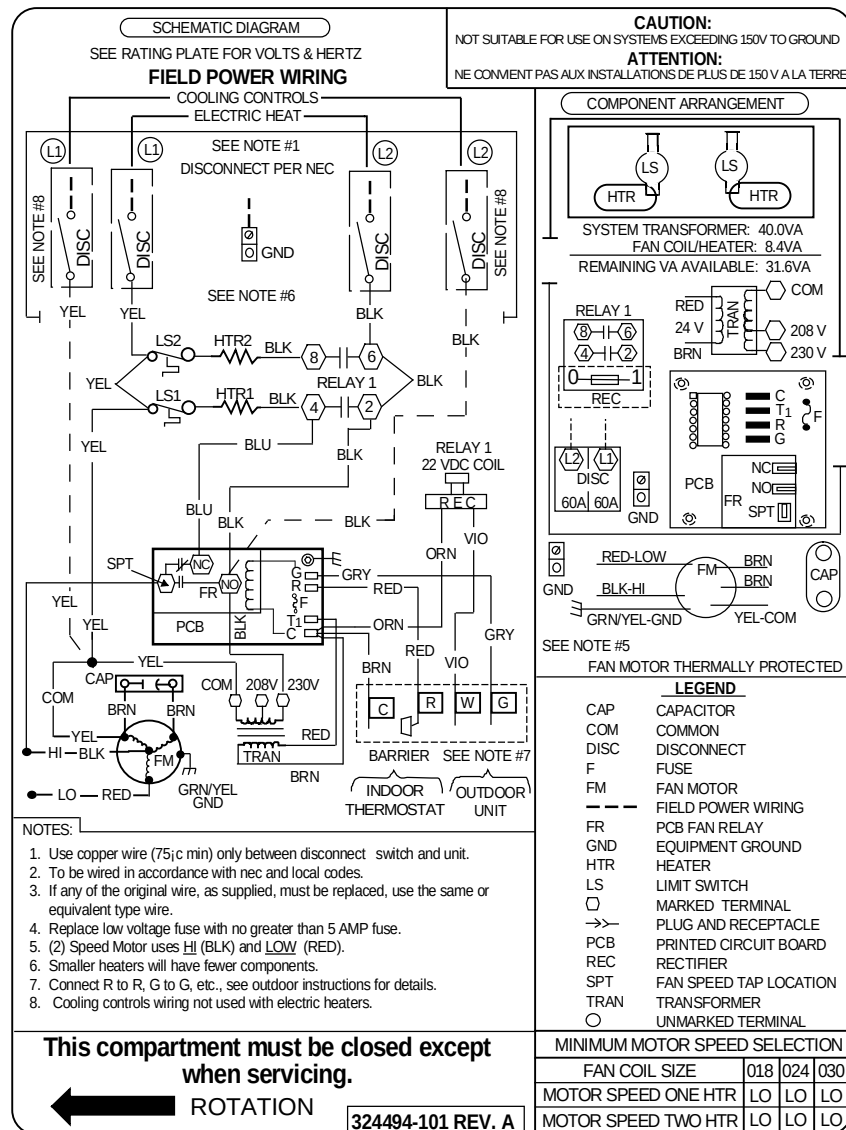

Fig. 3B—FF1D Typical Wiring Diagram
1. Wiring (See Fig. 3B for FF1D typical wiring diagram.)